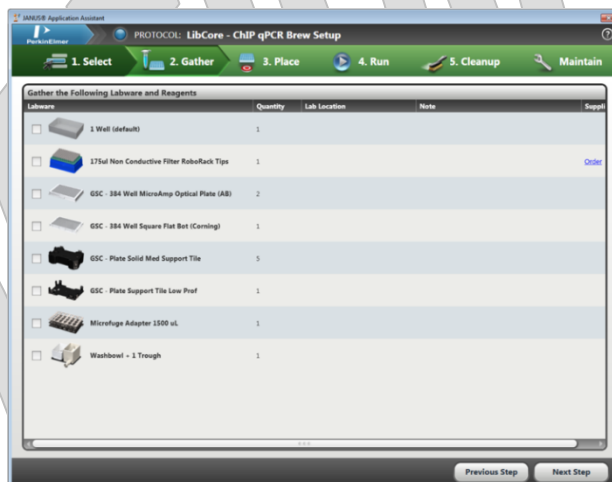

Figure 4: Accessory and part requirements for brew distribution
3.14. “Step 2. Gather” prompts the user to assemble all accessories/parts and tips for the brew distribution (Figure 4). It is not necessary to gather all the parts at this time. Click 'Next Step'.